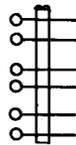

Fig. 8—240B Plug
- (b) **240B:** The 240B plug (Fig. 8) is used with the 384A jack on step-by-step switches.